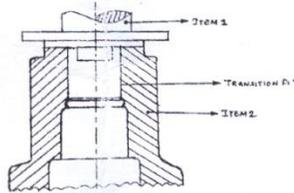

Fig. Q3(b)
- b. The fit requirement between the pin and the bore of the arrangement shown in Fig.Q3(b) is given by  $0.005 \pm 0.008$  mm. Assume that the hole basis system is followed and the basic size of the hole is 9 mm. It is required to achieve the above fit by following selective assembly procedure – specify the size range and tolerance for different mating parts that could satisfy the requirement of fit. Assume  $g_h = g_s$ . Show that size zones of hole and shaft components side by side.